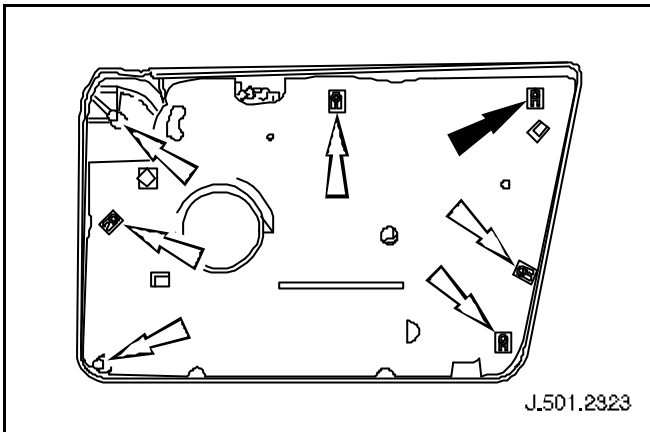
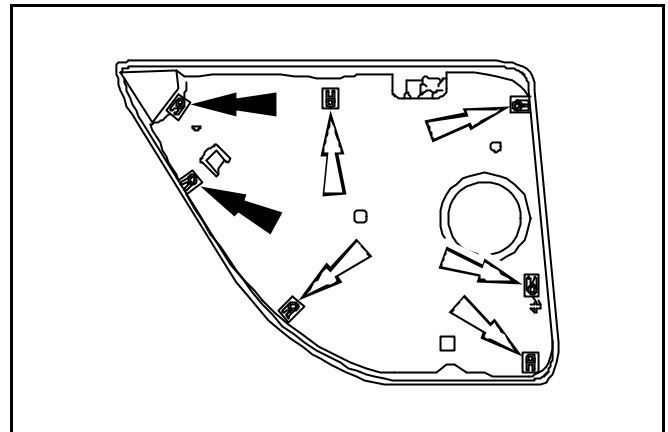
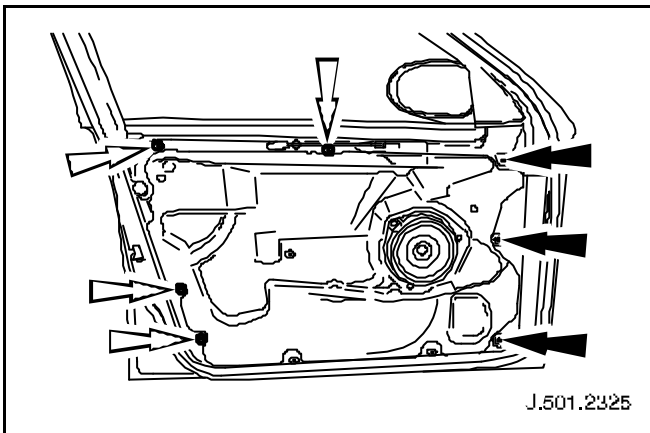
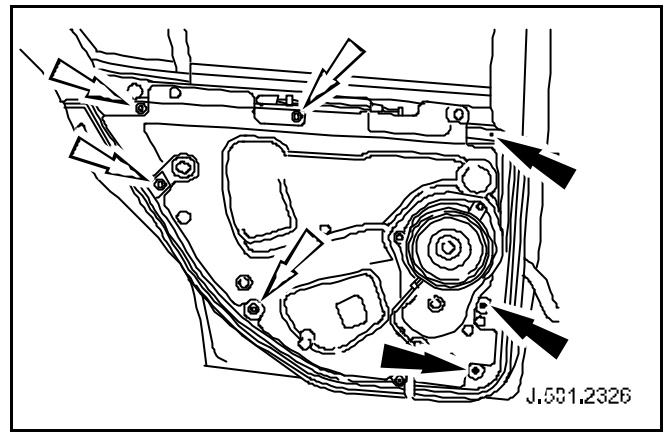

Fig. 3 (Front Door)
Fig. 4 (Rear Door)
Fig. 5 (Front Door)
Fig. 6 (Rear Door)
1. Install new pins noting the positions of the green fixing pins in Fig. 3 and Fig. 4 (shown by black arrows) install new grommets noting the positions of the black grommets in Fig. 5 and Fig. 6 (shown by black arrows). 2. Check good adhesion around water blanket butyl path, and install foam curtain into door trim pads. 3. Apply Krytox lubrication to front and rear edges of door trim pads.